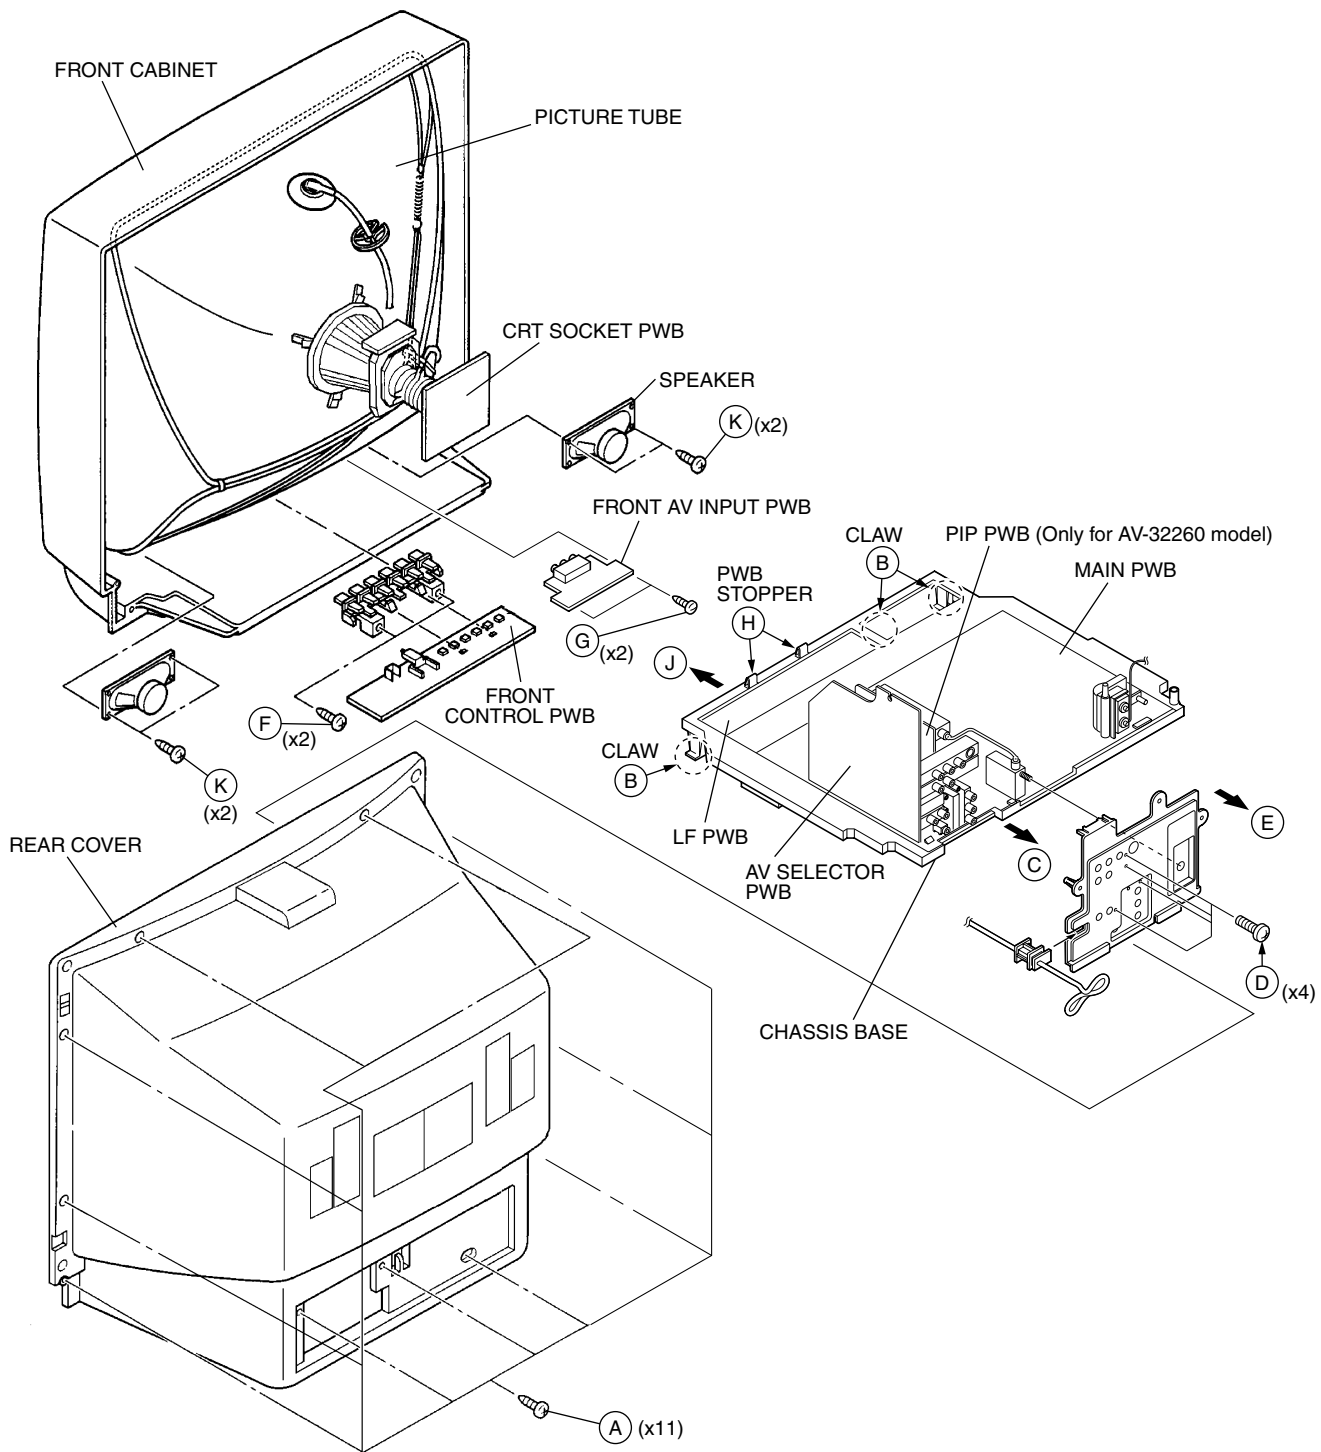

Fig.1
2. Remove the 11 screws marked (A) as shown in Fig.1.
1. Slightly raise the both sides of the chassis by hand and remove the 3 claws marked (B) under the chassis from the front cabinet as shown in Fig.1.
2. Withdraw the chassis backward along the rail in the arrow direction marked (C) as shown in Fig.1.
1. Remove the 4 screws marked (D) as shown in Fig.1.
2. When you pull out the TERMINAL BOARD in the direction of arrow marked (E) as shown in Fig.1, it can be removed.
1. Remove the 2 screws marked (F) and the 2 screws marked (G) as shown in Fig.1.
1. Lift the left side of the LF PWB while pressing the 2 PWB stoppers marked (H) in the arrow direction marked (I) as shown in Fig.1.
1. Remove the 2 screws marked (K) as shown in Fig.1.